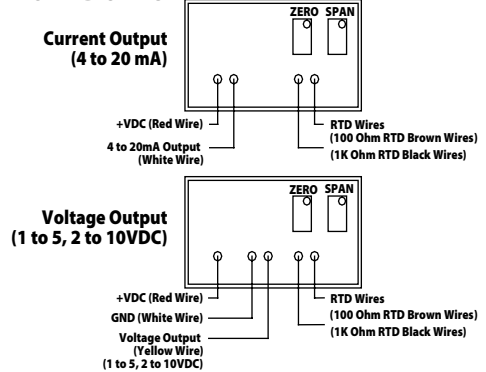

FIGURE 7: 3 WIRE RTD
Note: All RTD's are supplied with (2) or (3) flying lead wires. ACI's transmitters are supplied with a 2 pole terminal block for RTD sensor connections. When wiring a 3 wire RTD, connect the (2) common wires (same color) together into the same terminal block - see **FIGURE 7** (bottom right).